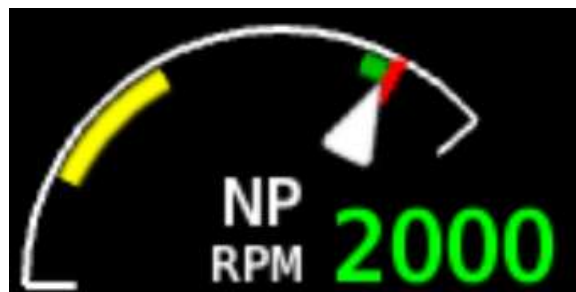

Figure 5: Propeller tachometer after software installation
- (1) Install the 5D3-NK366A1(Y)( )/91D17(B) propeller and 109044(P) spinner in accordance with the current Kodiak 100 series aircraft Airplane Maintenance Manual procedures.
- (2) Update propeller RPM tachometer using Garmin SD card P/N 006-B2633-56 according to Section E: and ensure the following (see Figure 5 for example):
- (3) Adjust main governor according to Section C of this document.
- (4) Adjust overspeed governor according to Section D of this document.
- (5) Attach Hartzell Propeller Inc. Airplane Flight Manual Supplement AFMS-030822 to the Pilot's Operating Handbook and FAA Approved Airplane Flight Manual.
- (6) Update AFM equipment list with the appropriate information below: